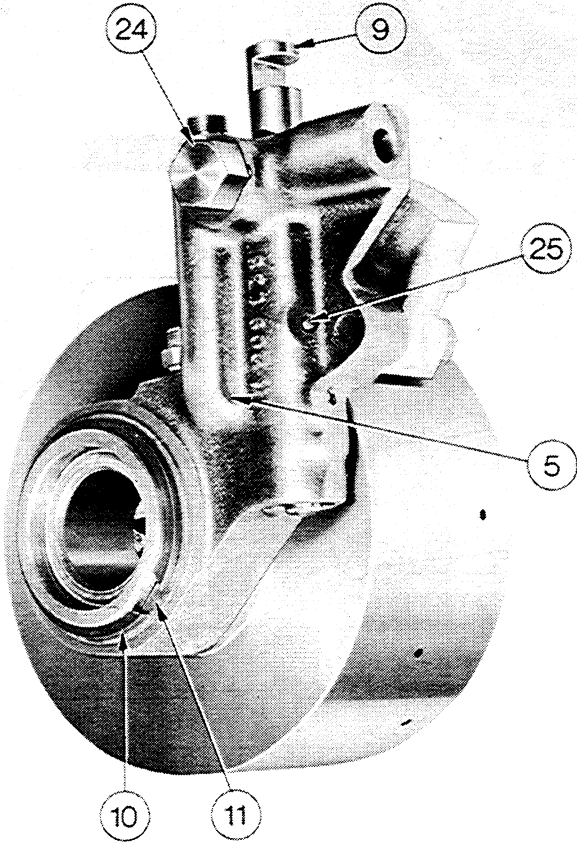
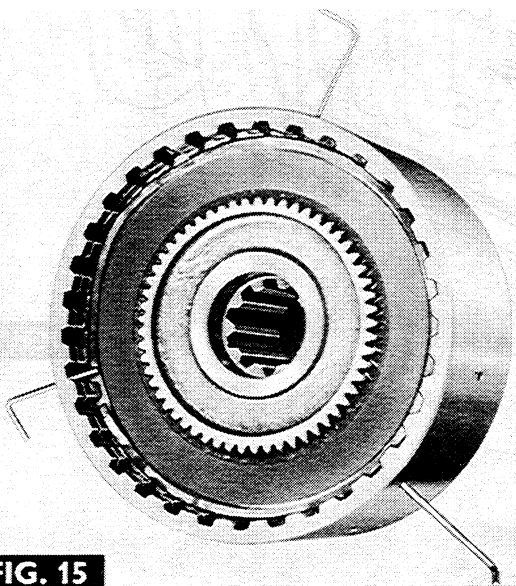
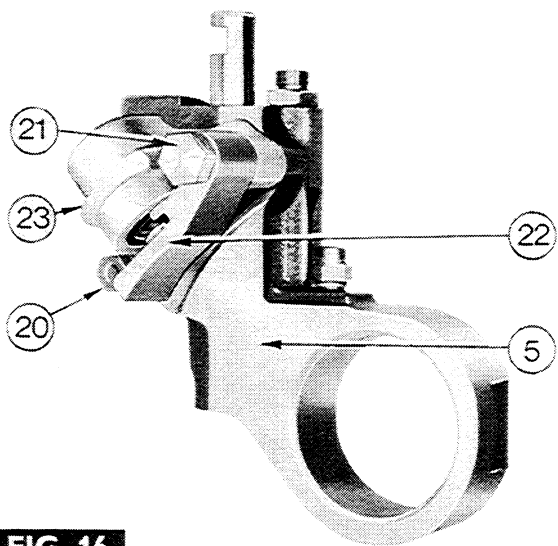

FIG. 13
FIG. 15
FIG. 16
2. Fig. 13. Remove the snap ring (10), thrust washer (11) and then the spool valve (5) from the clutch assembly.
1. If necessary, fit a new piston ring to the piston (14), then place the piston, boss uppermost, in the clutch housing (12).
2. Refit the centre hub (13) in the housing.
3. Fig.15. Alternately assemble the seven pressure plates (15), friction discs (17) and springs (16) in the housing. To facilitate the refitting of all the discs, place suitable pins to compress the springs as shown.
4. Refit the cover plate (18) and secure with a new snap ring (19).
6. Fig.13. Refit the spool valve (5) to the clutch, then the thrustwasher (11) and secure with a new snap ring (10).
2. Fig.13. Remove the snap ring (10), thrust washer (11) and then the spool valve (5) from the clutch housing.
3. Fig.16. Remove the two bolts (20 and 21) securing the brake (22) and the brake housing (23) to the spool valve (5).
4. Fig.13. Remove the plug (24), spring and ball, then drive out the securing pin (25) and withdraw the spool (9) from the spool valve (5).
2. Fig.13. Slide the spool (9) into the valve (5), then align the flat on the spool with the hole in the valve and fit a new securing pin (25).
3. Refit the ball, spring and plug (24).
4. Fig.16. Engage the brake (22) into the slot at the end of the piston (27 Fig. 6) then refit the brake and the brake housing (23) to the spool valve and secure with the two bolts (20 and 21).
**NOTE – BEFORE FULLY TIGHTENING THE BOLTS (20 and 21) ENSURE THAT THE BRAKE (22) IS FLUSH AGAINST THE BRAKE HOUSING (23).**
5. Fig.13. Refit the spool valve (5) to the clutch, then the thrust washer (11) and secure with a new snap ring (10).